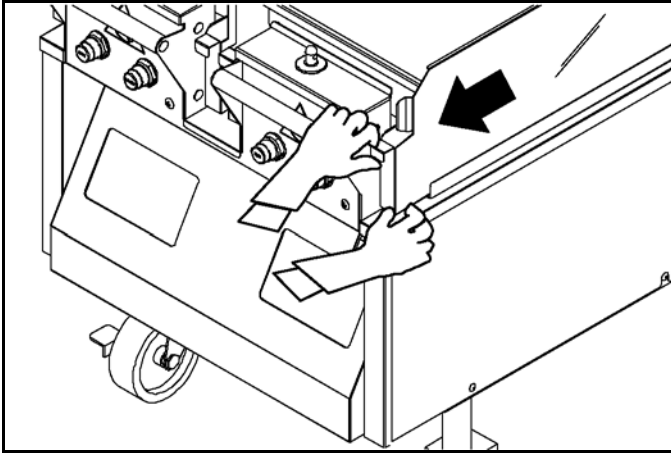

Figure-166
38. Wash and rinse the grease pans in the three-compartment sink. See Figure-166.